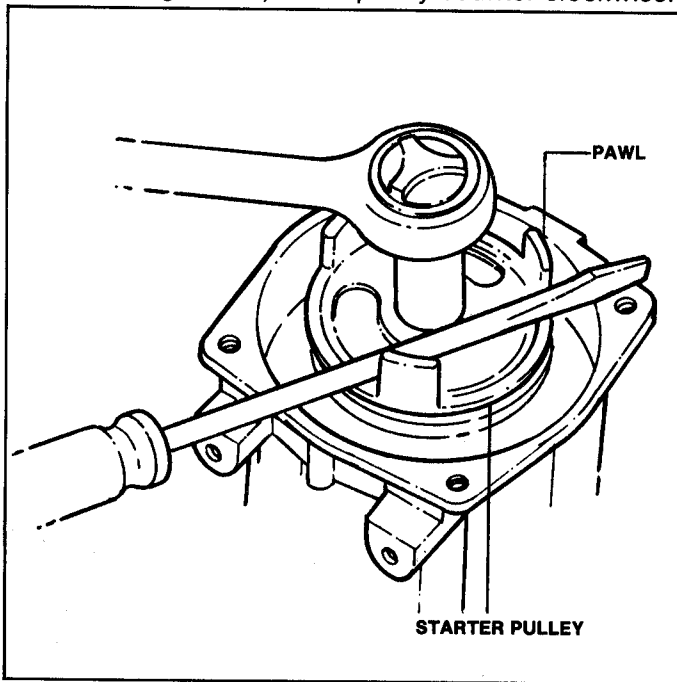

FIGURE 4.2
- B. Remove 3 - pronged starter pulley. (Fit screwdriver between pawls of pulley to prevent turning. See Figure 4.2). Turn pulley counter clockwise.